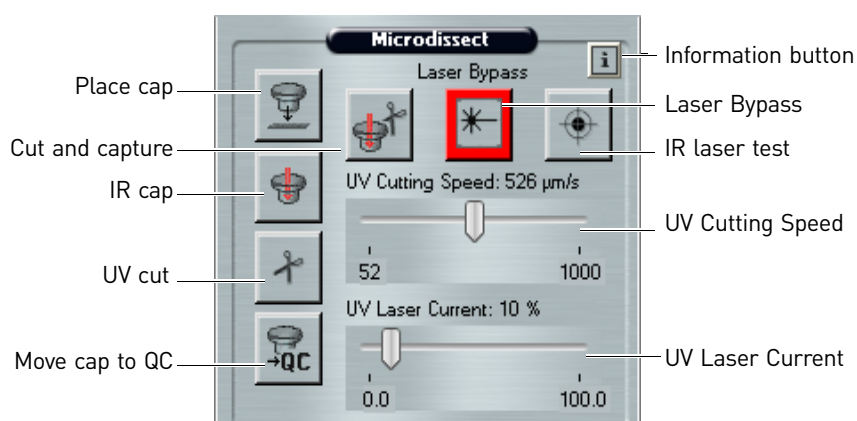

Figure 50 The Microdissect tools pane.
This chapter explains how to microdissect cells and tissue, inspect CapSure™ Caps and slides after microdissection, and unload the caps and slides. It also tells you how to locate both the IR Capture Laser and the UV Cutting Laser, and how to set parameters for IR capture and for UV cutting. It covers setting the order and selecting properties for cut and capture, as well as viewing and updating CapSure™ Cap information. It explains how and when to use the laser bypass feature. You access all of these features from the Microdissect tools pane (see Figure 50).
1. Click the **Cut and Capture** button (see Figure 50).